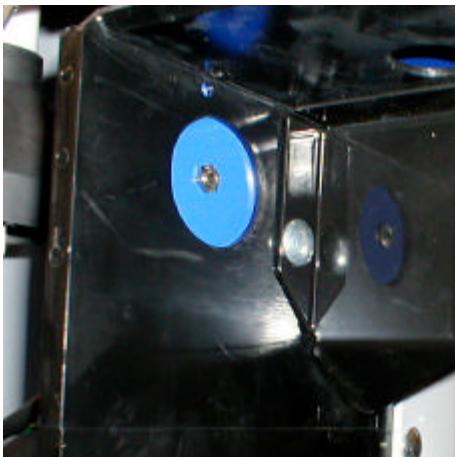
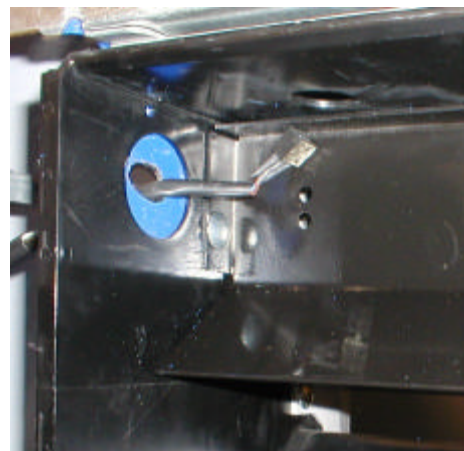

Figure 1
Figure 2
2. Remove the nut securing the Electronic Lock Battery Port on the left side of the delivery port. See Fig. 1.
3. Remove the top two (2) lamps.
6. Remove the existing Closure Strip by removing the three (3) carriage bolts and nuts that secure it to the Delivery Port.
7. Use a $\frac{3}{4}$ " drill bit and drill the hole in the Delivery Port where the Electronic Lock Battery Port use to be located to make it larger. Be careful not to damage any wiring or parts. See Fig. 1.
11. Install the top two (2) lamps.
12. Pass the Electronic Lock Battery Port through the hole drilled in step 7. See Fig. 2.
13. From the back, insert the Electronic Lock Battery Port in the upper left hole of the Closure Strip and secure with the nut removed in step 3. See Fig. 2.